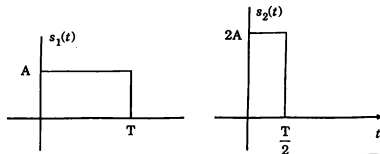

Fig. 1 : Signals $s_1(t)$ and $s_2(t)$
5. Two signals $s_1(t)$ and $s_2(t)$ are given in Fig. 1. (a) Using Gram-Schmidt orthogonalization procedure, express these signals in terms of orthonormal basis function, (b) Plot the obtained orthonormal basis function.